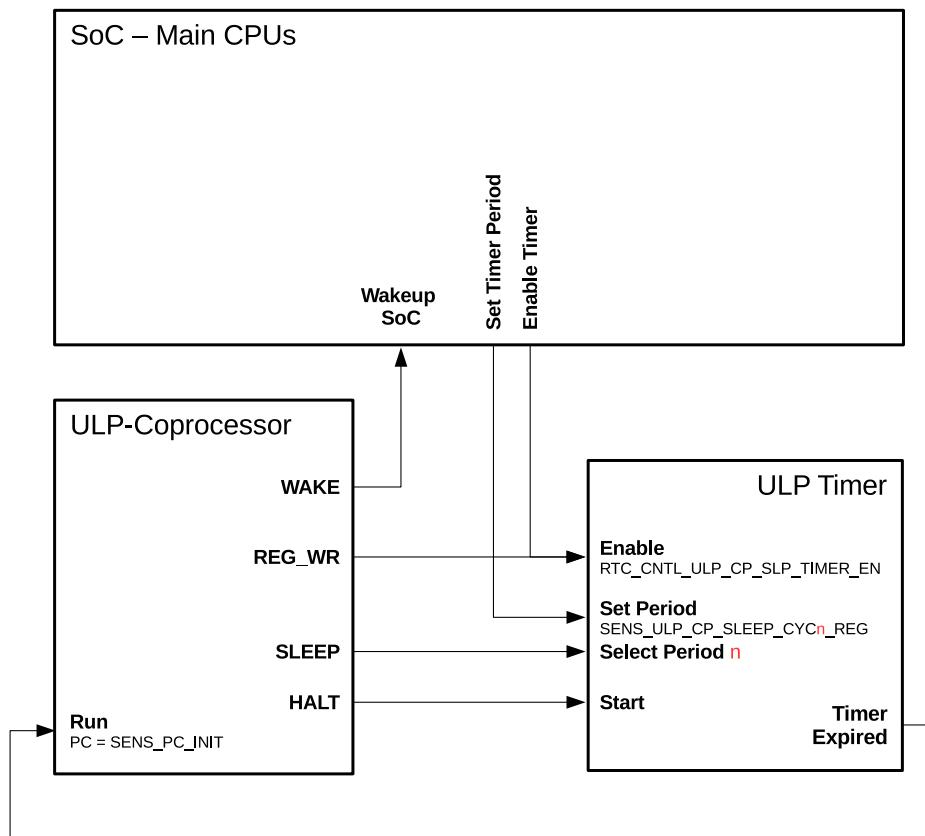

Figure 30-19. Control of ULP Program Execution
Once the timer expires, the ULP coprocessor is powered up and runs a program with the program counter (PC) which is stored in register SENS\_PC\_INIT. The relationship between the described signals and registers is shown in Figure 30-19.